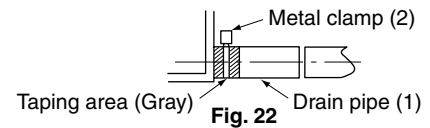
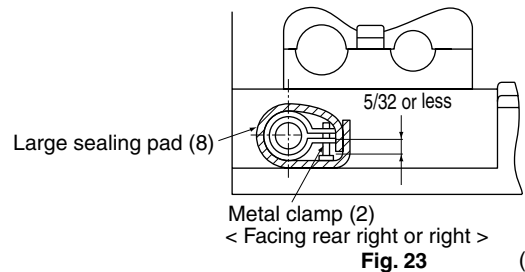

Fig. 22
Fig. 23
- Be sure to use the drain pipe (1) and metal clamp (2). Also, insert the drain pipe completely into the drain socket, and securely attach the metal clamp bracket inside the gray tape area on the inserted tip of the drain pipe. (Refer to Fig. 22) Screw the screws on the metal clamp bracket until there is 5/32 in. left. (Pay attention to the direction of the attachment to prevent the metal clamp bracket from coming into contact with the suction grille.) (Refer to Fig. 23)
- Insulate the metal clamp bracket and drain pipe from the bottom using the large sealing pad (8). (Refer to Fig. 23)
(2) Check to make sure the water flows smoothly after piping is complete.